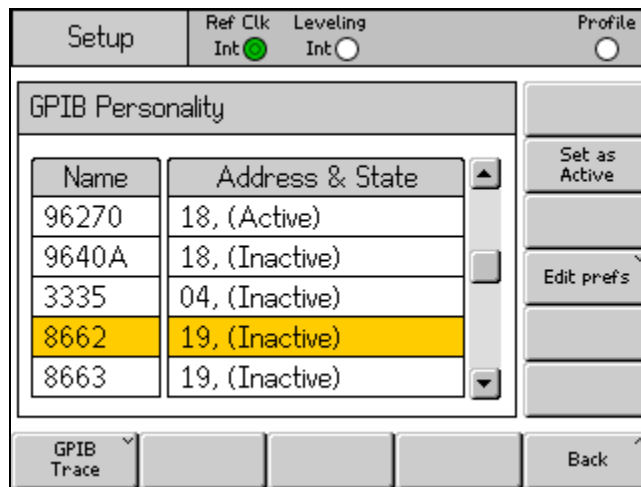

Figure 20. GPIB Personality Screen
3. Use the \uparrow/\downarrow keys to select the 8662 personality. See Figure 20.